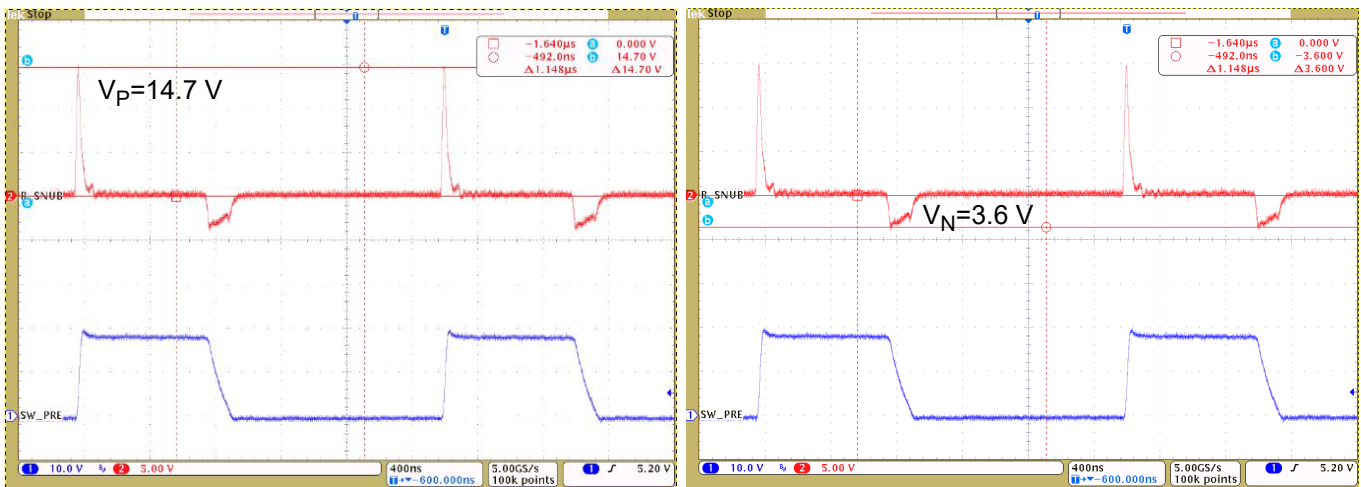

Figure 15.  $V_{PRE}$   $R_{SNUB}$   $V_P$  and  $V_N$  measurement at  $V_{SUP} = 18$  V (on KIT33908AEEVBE)
- From Figure 15,  $P(R_{SNUB\_V_{PRE}}) = 1/2 \times 4.7$  nF  $\times (14.7^2 + 3.6^2) \times 440$  kHz = 0.237 W.